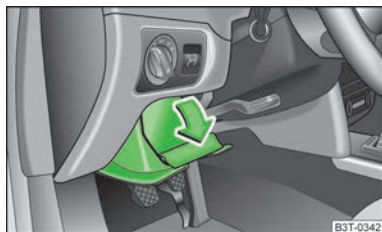

Fig. 89
- The storage compartment is opened by lifting the handle and folding open in the direction of arrow » Fig. 89.